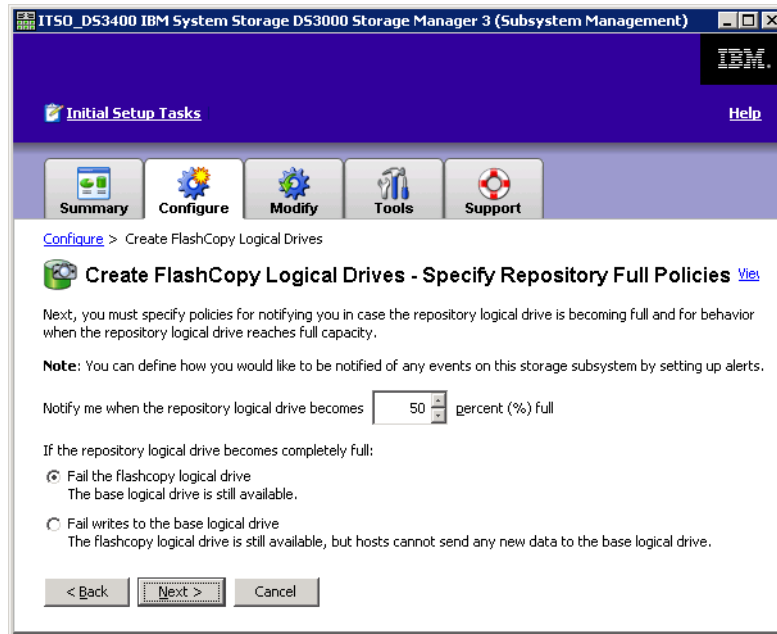

Figure 9-70 FlashCopy - Specify Repository Full Policies
4. In the Specify Repository Policies window (Figure 9-70 on page 195), select which repository full policies you want to use. We described these options in “FlashCopy failure policy” on page 186. Enter the notification threshold and your choice for what to do if the repository logical drive fills and click **Next**.